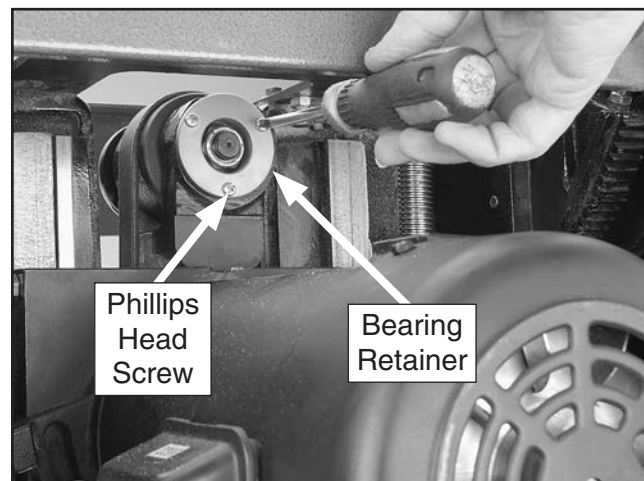

Figure 137. Removing bearing shield.
10. Remove (3) Phillips head screws on bearing retainer, shown in **Figure 137**, then remove retainer.